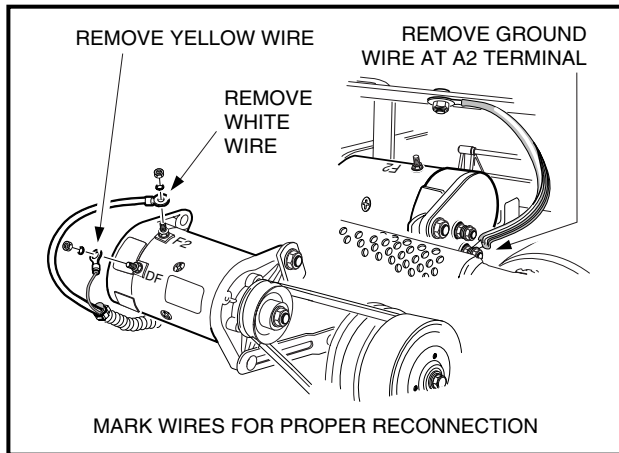

FIGURE 10-17
- 2.8. Mark for proper reconnection and then disconnect the 6 gauge white wire (F2 post), 6 gauge black ground wire (A2 post), and 16 gauge yellow DF wire from starter/generator (**Figure 10-17**).